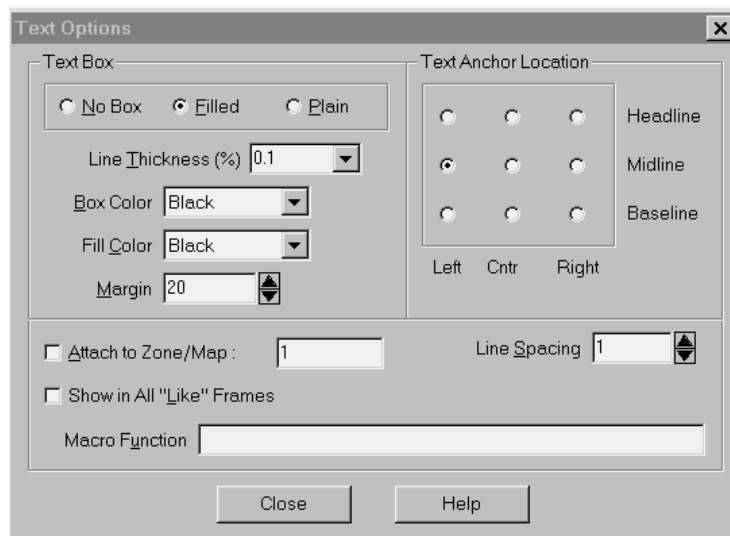

Figure 18-6. The Text Options dialog.
2. Click Options. The Text Options dialog appears as shown in Figure 18-6.